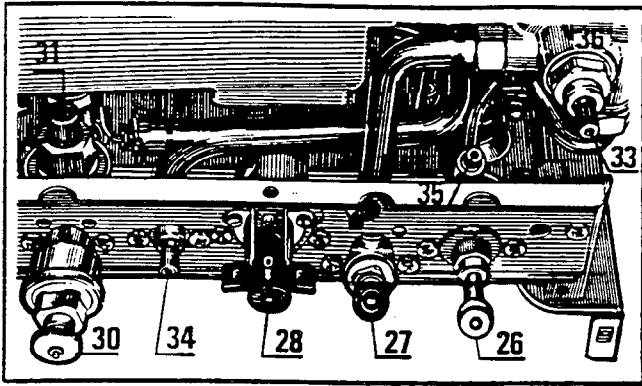

Fig. 17
- Check that the heating isolating valve (26) (fig. 17) is open.